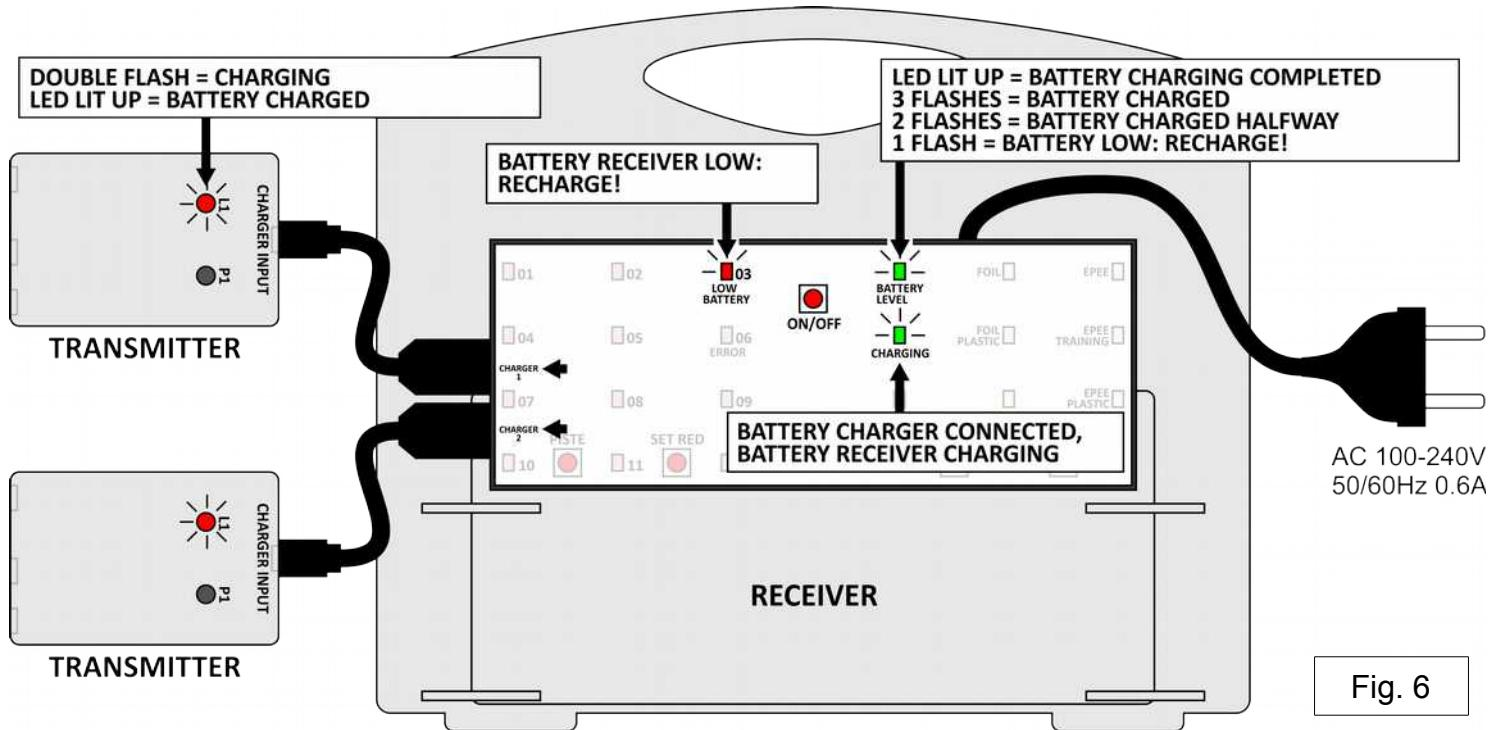

Fig. 6
6.1), connect the TRANSMITTERS as indicated in Fig. 6, using the proper cables provided. If the TRANSMITTERs are shut off, turn them on by pressing the P1 button; the TRANSMITTER's L1 LED will flash twice to indicate that the battery is being charged. It takes approx. 3 hours to fully charge the battery. When the battery is fully charged the TRANSMITTER's L1 LED will remain lit.